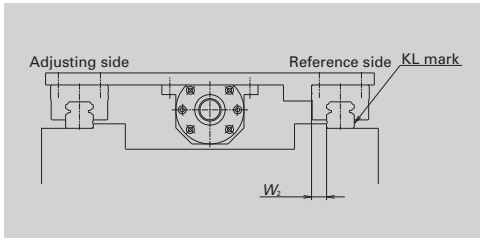
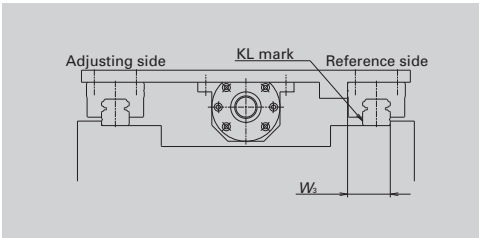

Fig. 4.3 Mounting width W_2
Fig. 4.4 Mounting width W_3
- Mounting width differs depending on the arrangement of the datum faces of the rail and slide on the reference linear guide (indicated as KL on the rail). (Fig. 4.3 and Fig. 4.4)